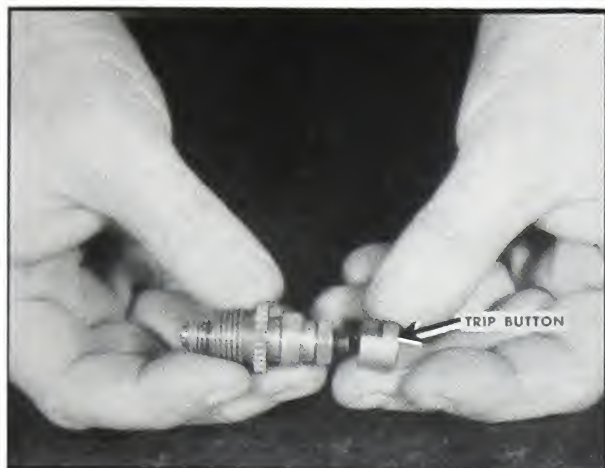

Fig. 5-256. Replace trip button
3. Replace the spring and plunger guide. Screw on the trip button and lock nut. Leave the button loose; its position will be determined later. Fig. 5-256.